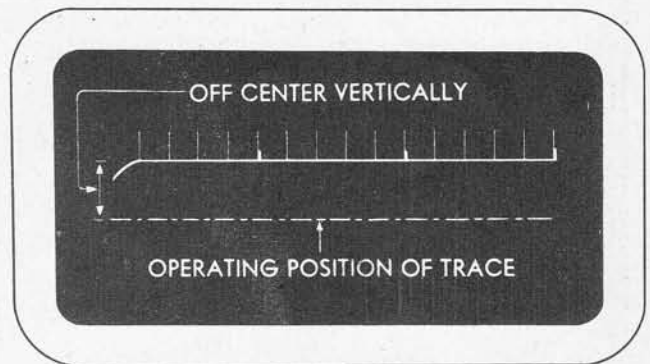

Figure 4-23
f. CENTERING OF TRACES.—Figures 4-23 to 4-27 are for receiver-indicator emergency operation, centering of traces.
(1) To center the trace *vertically* with the "FUNCTION" switch set at positions "1," "2," "3," "4," "5," or "6," proceed as follows: